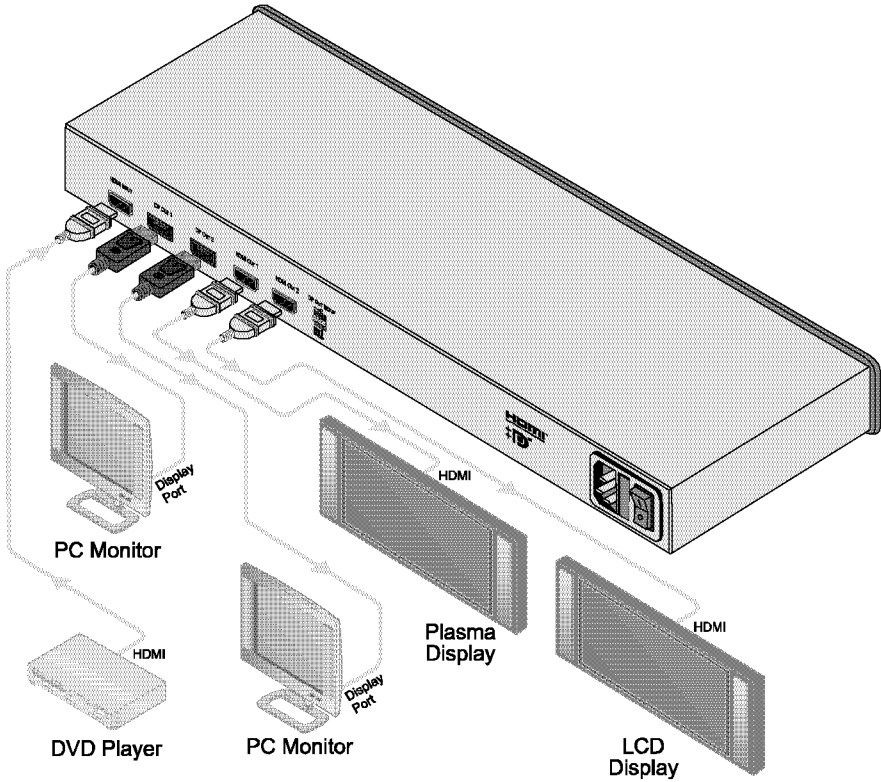

Figure 2: Connecting a VM-4HD 1:4 HDMI DisplayPort Distributor
To connect the **VM-4DH**, as illustrated in Figure 2, do the following:
3. Connect the power cord to the mains electricity (not shown in Figure 2).